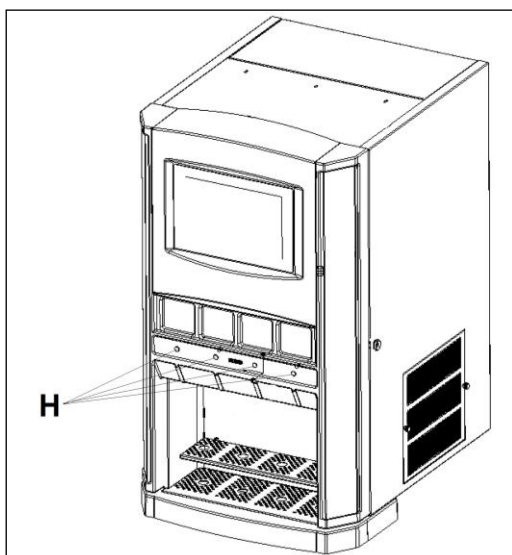

Fig. 3
- **P**ush the H button (Fig. 3) in order to empty the syrup circuit.
- **P**ush the H button (Fig. 3) until the circuit sanitizing procedures is completed.
- **P**ress the button H to rinse the syrup circuit and repeat this operation more than one time (Fig. 3).